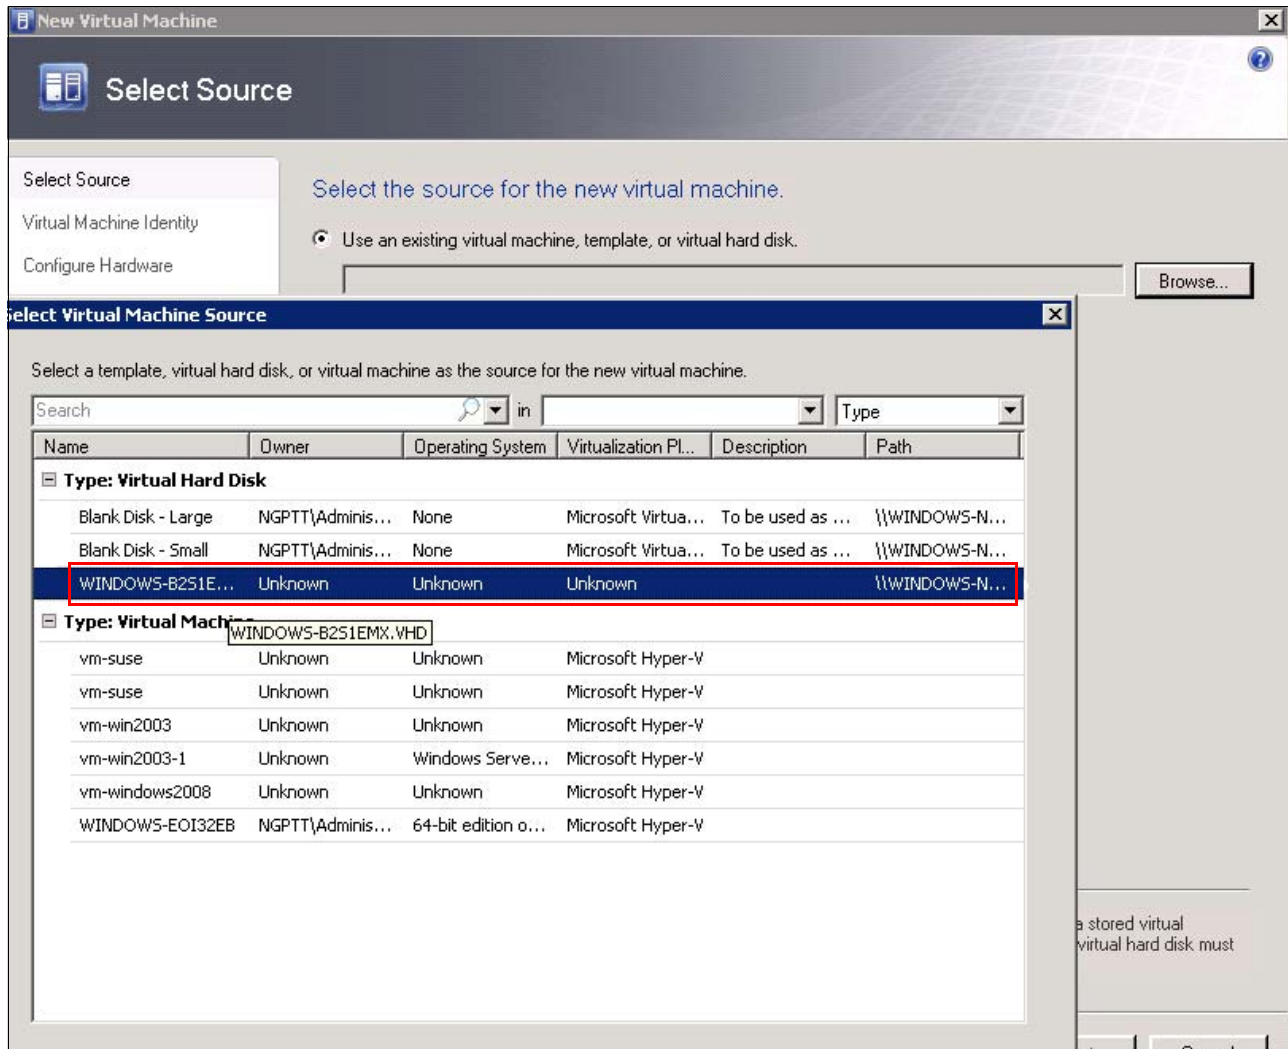

Figure 3-13 New Virtual Machine wizard: Select source
9. The New Virtual Machine wizard starts. Choose the OS image file that you captured from the source server, as shown in Figure 3-13.